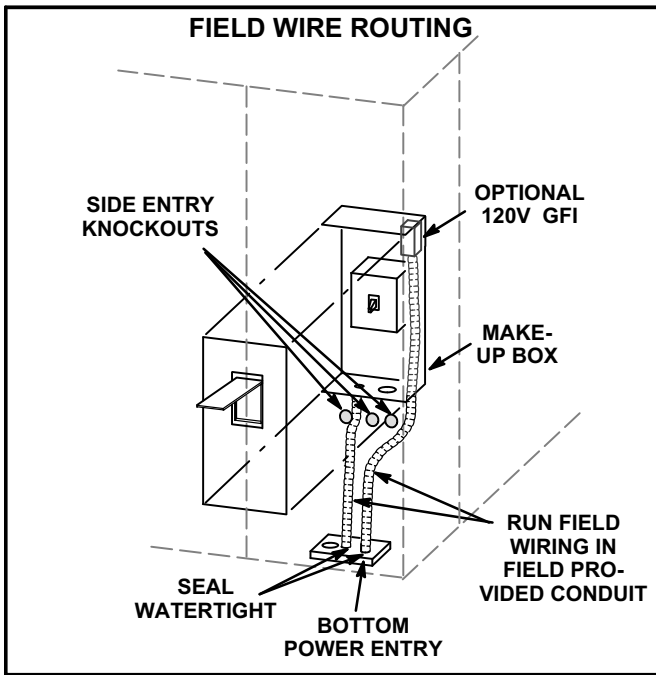

FIGURE 7
Route field wiring in conduit between bottom power entry and disconnect. See figure 7. This does not supersede local codes or authorities having jurisdiction.
- 3- *Units With Optional 120v GFCI Outlet -* Route and connect separate 120v wiring to GFCI outlets which do not have factory-installed wiring. Route field wiring in conduit between bottom power entry and GFCI. See figure 7.